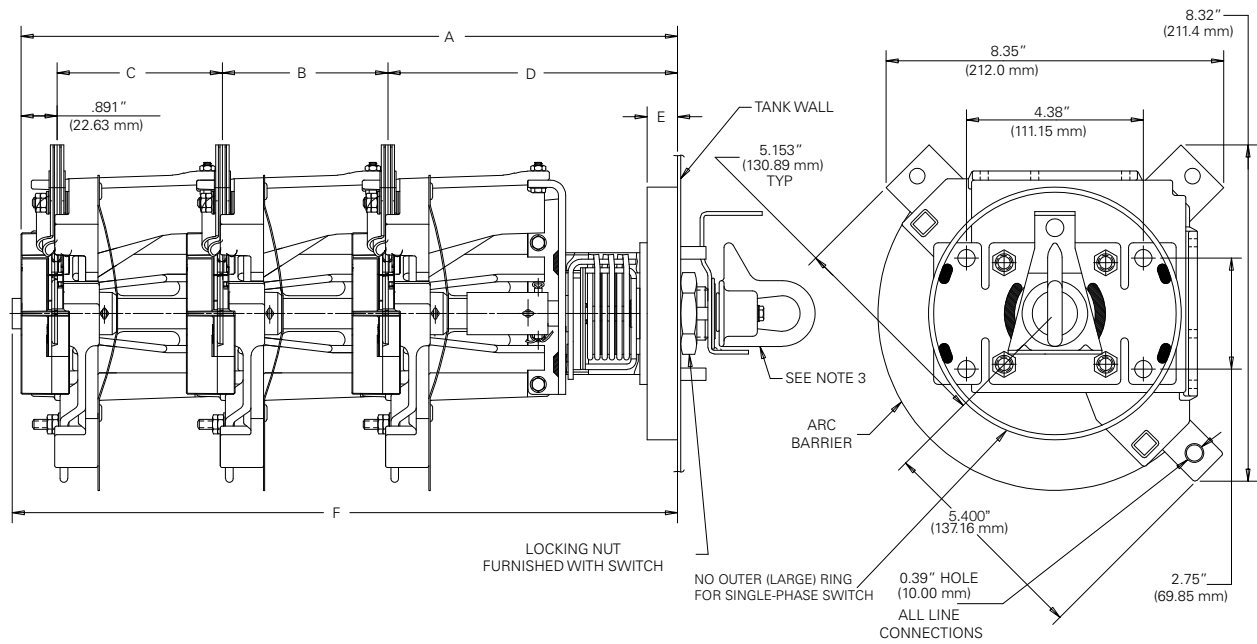

Figure 3. Line illustration with dimensions of sectionalizing switch with "Ring-Mount System."
1. Dimensions given in Figure 3 and Table 3 are for reference only.
Table 3. Dimensional Information for Figures 3 and 4 (inches/mm)